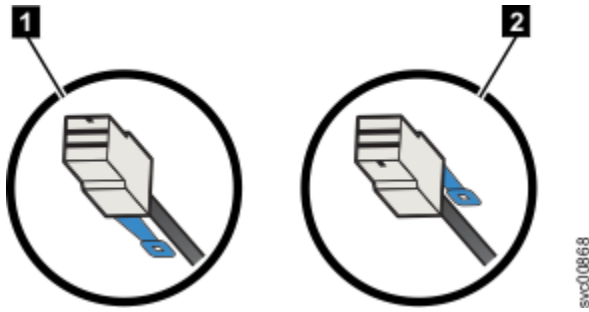

Figure 42. SAS cable connector orientation
- When you connect an expansion enclosure, the blue pull tab must be below the cable (1 in Figure 42 on page 37).
- When you connect a 2145-SV1 , the blue pull tab must be above the connector (2 in Figure 42 on page 37).